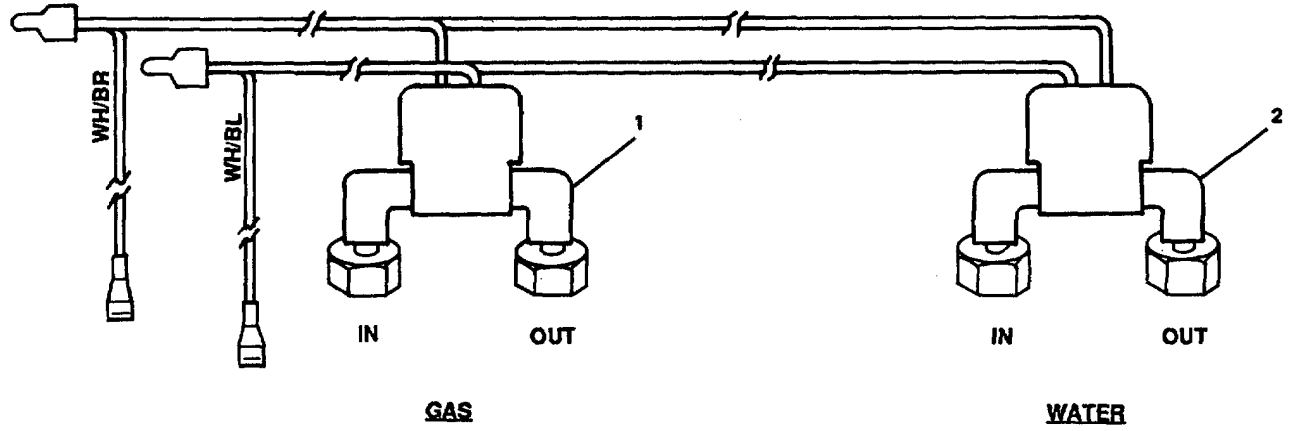

FIGURE 3-56. Gas and Water Solenoid Valves.
- b. Remove access door (7) and panel (8).
- c. Remove cover (5) and panel (6).
- d. Remove panel (10).
- e. Remove fastener cover (19).
- f. Remove spring latch (22).
- g. Remove terminal cover assembly (23).
- h. Remove insulated terminal (24) and terminal bus bar (25).
- i. Remove gas solenoid valve (1, Figure 3-56).
- j. Remove water solenoid valve (2).
Repair at this level of maintenance is by replacement of: gasket (4, Figure 3-55), gas connector (27), water connector (26), transformer assembly (13), capacitor (32), fixed capacitors (15, 16), gas solenoid valve (1, Figure 3-56), water solenoid (2).
- d. Install panel (14).
- e. Install capacitor bracket (33) and capacitor (32).
- f. Install terminal studs (30, 31) voltage link (29), and terminal board (28).
- g. Install transformer assembly (13).
- h. Install alternating current motor (12).
- i. Install fan blade (11) and fan housing (10).
- j. Install mode switch (21) and handle (20).
- k. Install water connector (26).
- l. Install gas connector (27).
- m. Install water solenoid valve (2, Figure 3-56).
- n. Install gas solenoid valve (1).